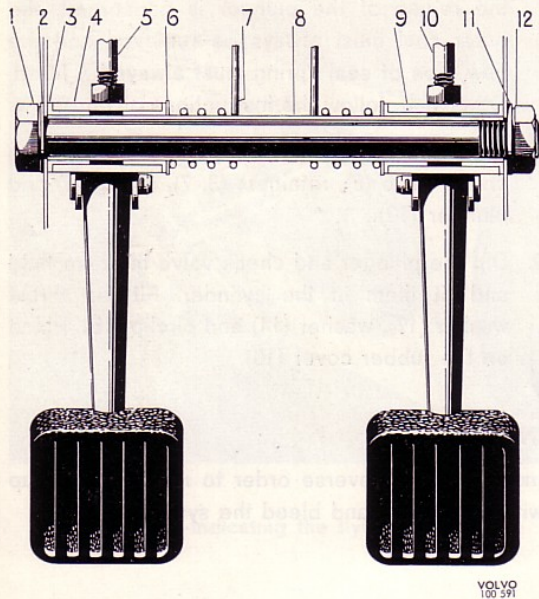

Fig. 32. Pedal carrier, 120, 1800, type II
1. Remove the split pins and bolts in the pedals. Unhook the return springs. On late prod. type, slacken the bolt and nut for the pedal shaft (8, Fig. 32), type I has two bolts. Remove the pedals (4, 9) and shaft.
2. Tap out the bushes (3) with a suitable drift. Press in the new bushes.